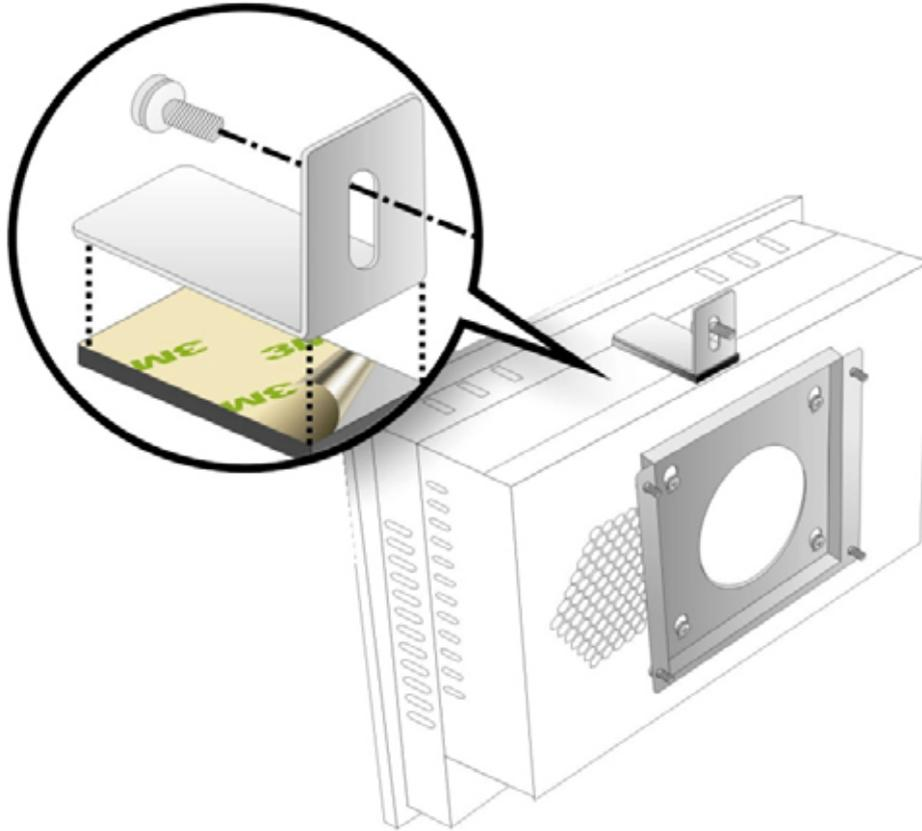

Figure 3-13: Secure the Chassis
Step 3: Secure the panel PC with the wall-mounting kit. To do this, stick the protective cushion to the wall-mounting kit first. Then, put the wall-mounting kit on the top panel of the panel PC. Carefully mark the location of the wall-mounting kit screw holes on the wall. Drill a pilot hole at the marked location on the wall. Secure the wall-mounting kit to the wall by inserting a retention screw into the pilot hole on the wall (**Figure 3-13**). This step is to avoid the panel PC being pushed apart